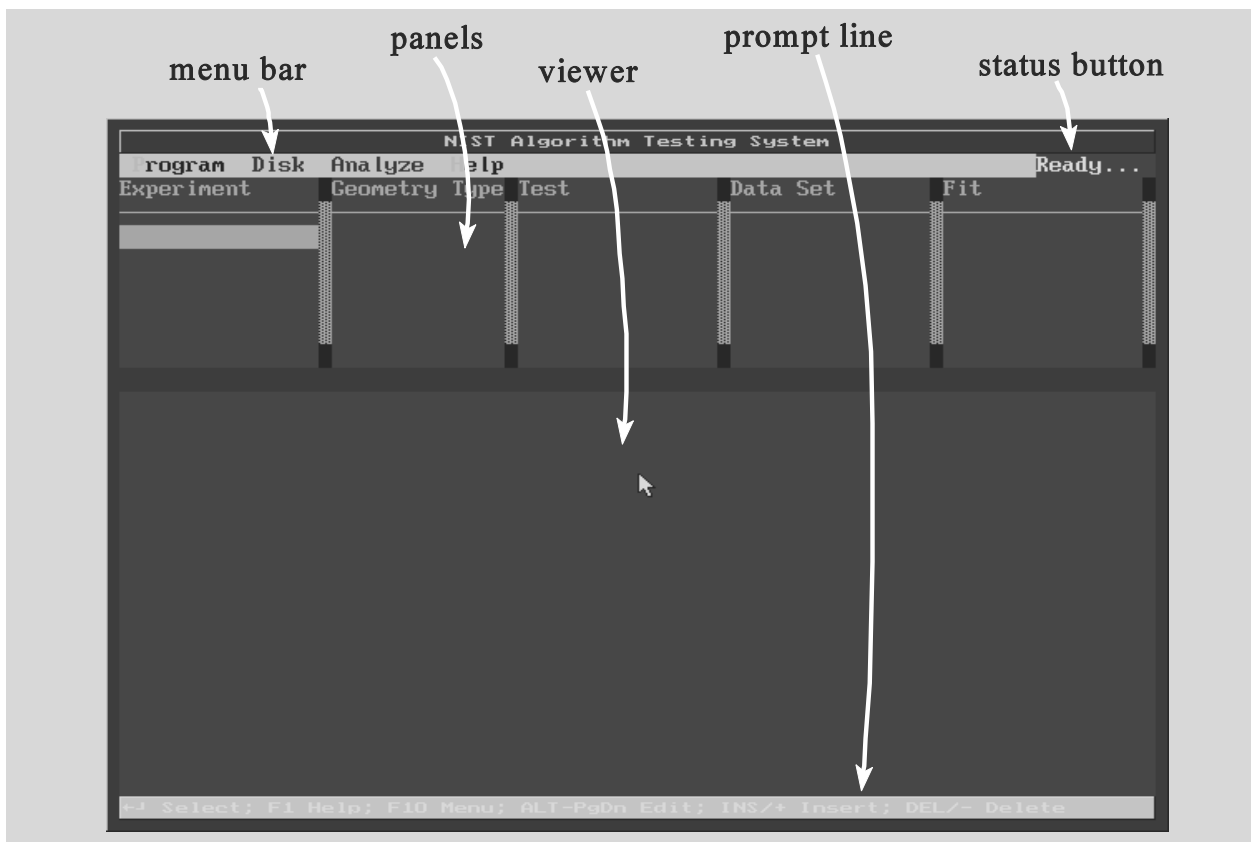

Figure 1 - The ATS Initial Screen
- 2** After initialization, a "data-less" ATS will appear before you. You will see the following, as illustrated in figure 1: